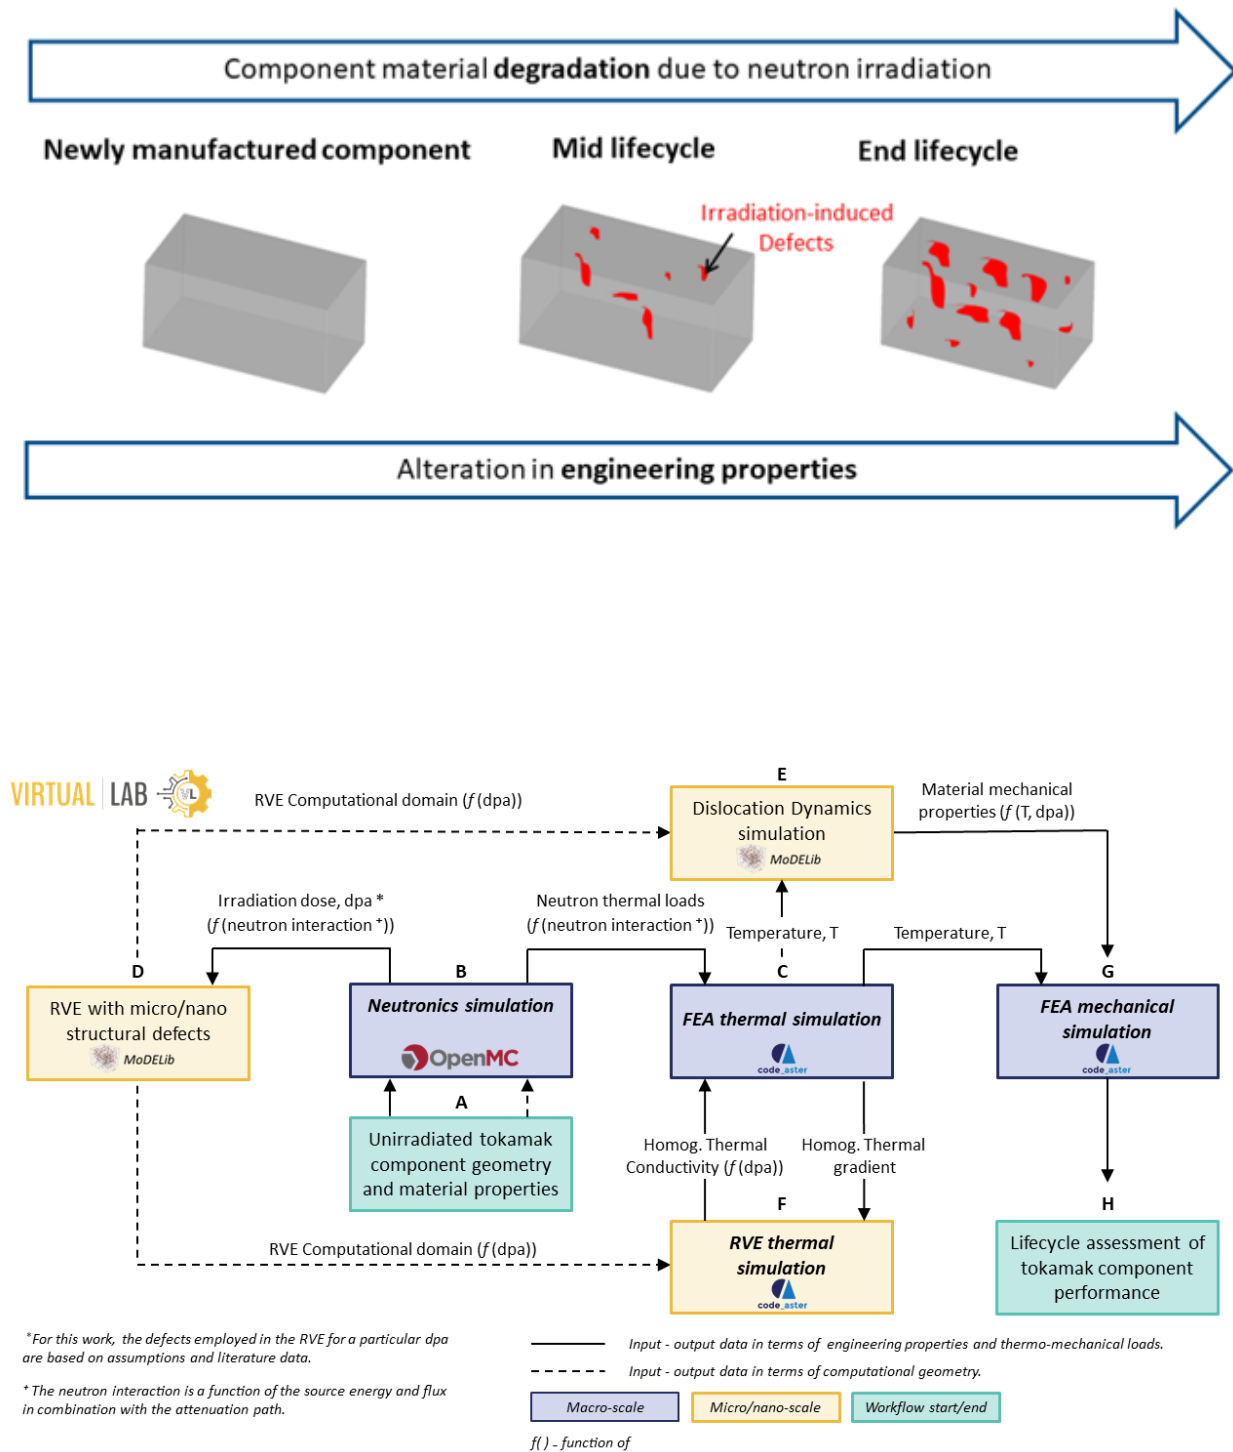

Fig. 6.34: Schematic diagram of the workflow for the developed platform.
The workflow is employed in **VirtualLab** in the form of a multi-scale hierarchical computational predictive capability to link the neutron irradiation-induced micro/nano scale defects response to the mechanical behaviour of tokamak components as shown in Fig. 6.34.
The letters (A)-(H) in the Fig. 6.34 denotes various stages/components of the workflow incorporated **VirtualLab**. The neutron heating values are calculated in the Monte-Carlo based neutronics simulations from **OpenMC** (B) which are implemented as thermal loads for finite element simulation (FEA) in **Code_Aster** (C). The damage energy obtained from